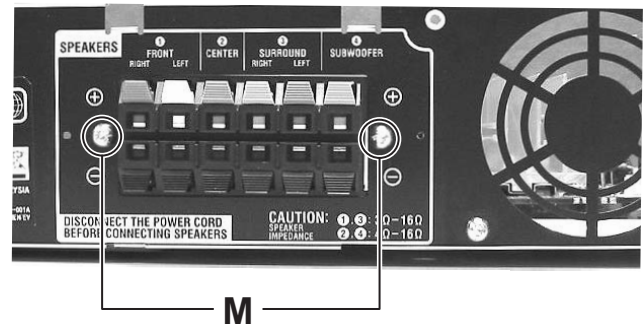

Fig.15
- (2) Remove the two screws **M** attaching the main board from rear panel. (See Fig.15)